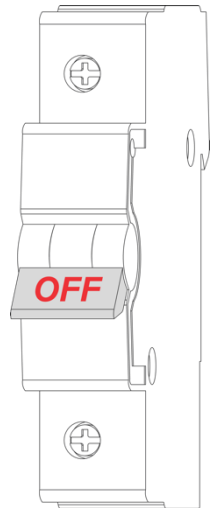
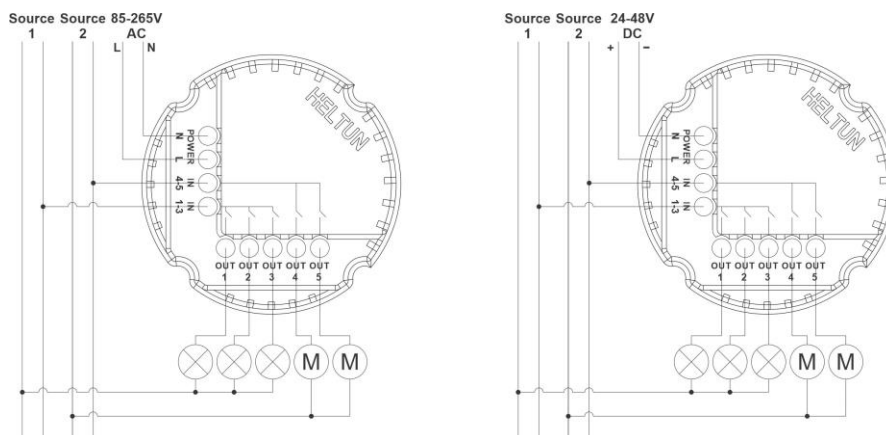

Figure 1:
Figure 2: Connection Diagrams
3. FIRST ENSURE THE POWER IS OFF at the main circuit breaker (Fig. 1), and then test the wires with a probe or multimeter to verify. Insert the power wires to the HE-TPS02 "POWER" terminal by inserting a small Phillips-head screwdriver in the slot beneath each terminal and unscrew to open. Follow *Fig. 2: Connection Diagram* and instructions below:
- **Power wires:** for AC power (85-265VAC) connect Line & Neutral wires to L & N terminals labeled "POWER" (Fig 2. left diagram). For DC power (24-48VDC) connect "+" wire to terminal N and "-" wire to terminal L (Fig 2. right diagram).